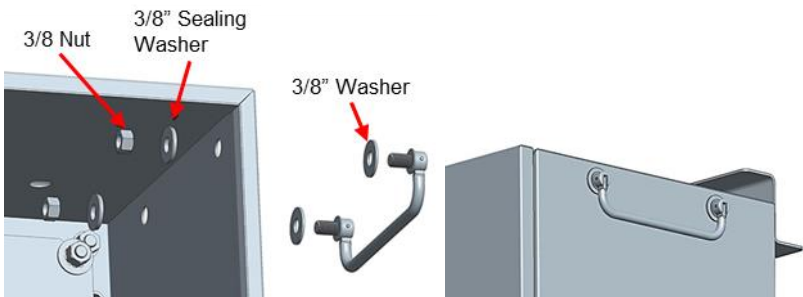

Figure 7: Attach Handles to the Side of the Enclosure
1. Push the handle mounting threads through the holes located at the top side of the box and attach using the enclosed 3/8" Nut and 3/8" washers as shown in Figure 7 (2 places).